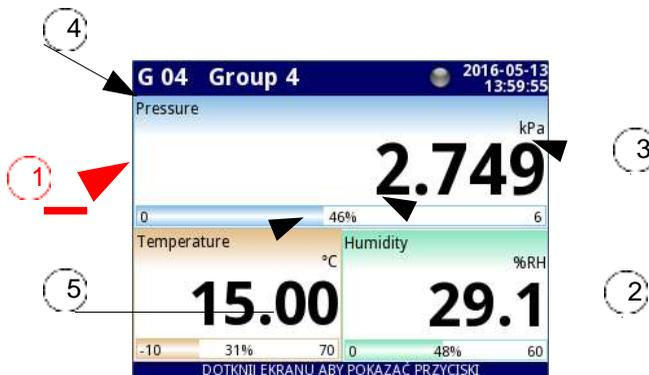

Fig. 6.8. View of the **Data panel**
In all data panels (a sample of a data panel is shown inside the frame marked (1) in Fig. 6.8) the following information is available:
- value of the logical channel (denoted by (2) in Fig. 6.8),
- data unit (denoted by (3)),
- channel's name (denoted by (4)),
- on some modes there is also a visible percentage indicator of the value in relation to its full scale (denoted by (5)),